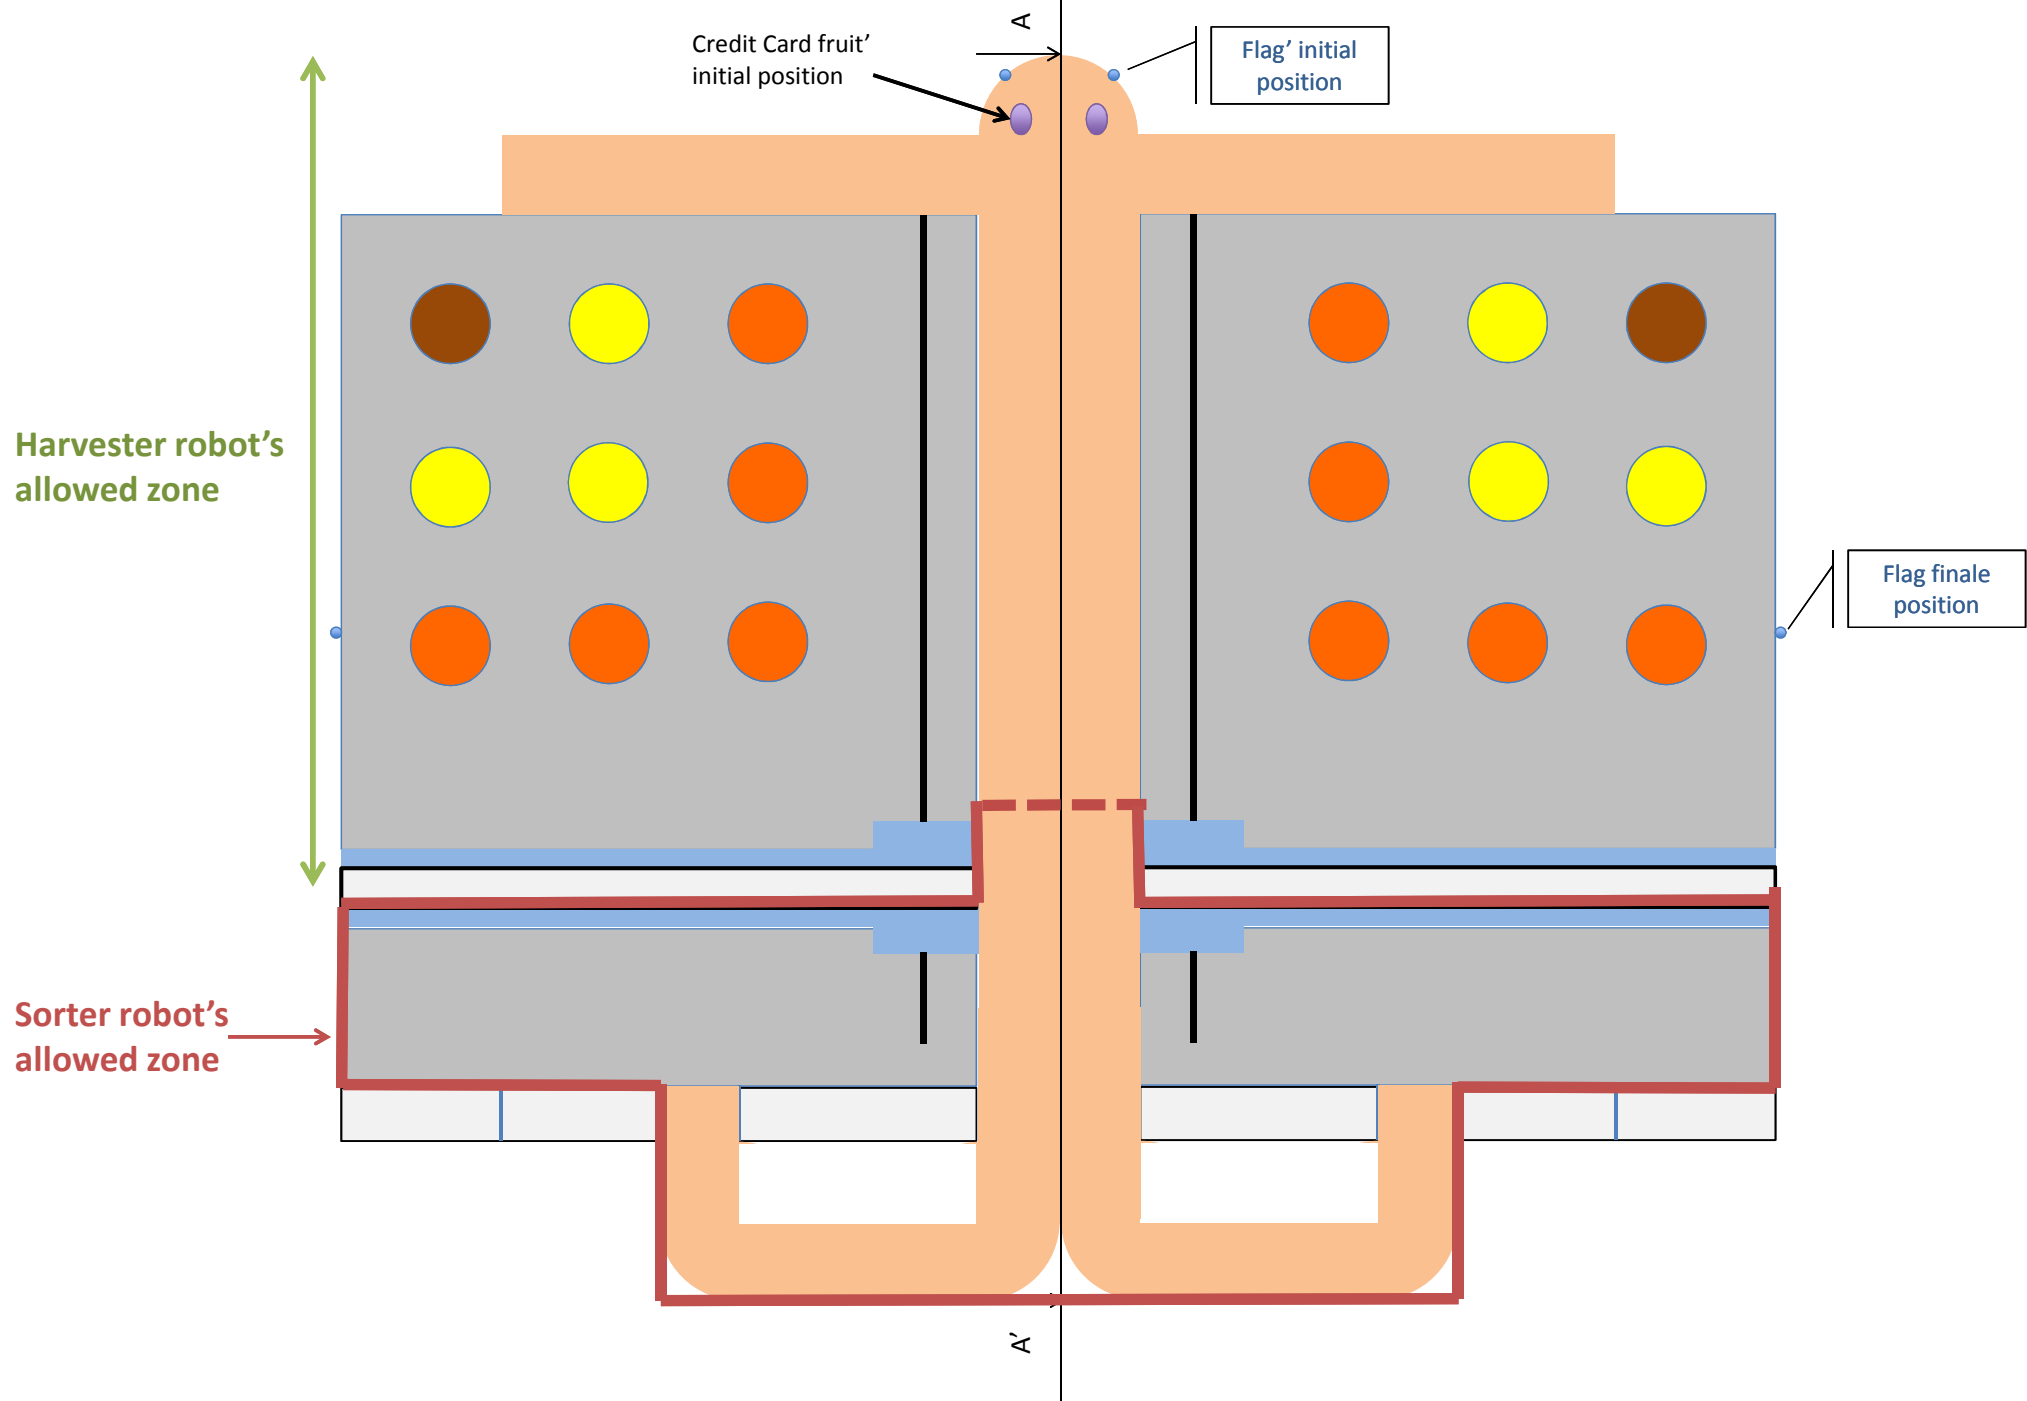

Figure 4 : Zones allowed for the Harvest robot and Sorter robot.
This information is presented in figure 4.
- The first is called “credit card fruit” destined to be put in the competing team’s container. The position of "the credit card fruit" is specified in the figure 4.